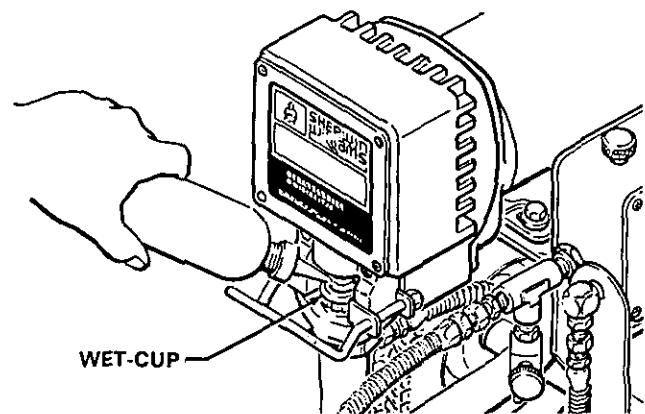

Fig 2
3. Never install any shutoff device between the pressure control and the main hose. See Fig 2.
2. Fill Packing Nut/Wet-Cup (See Fig 2.)